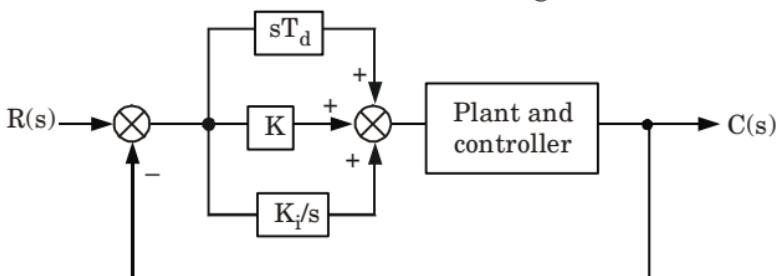

Fig. 13.
6. This can be realized as shown in the Fig. 13.